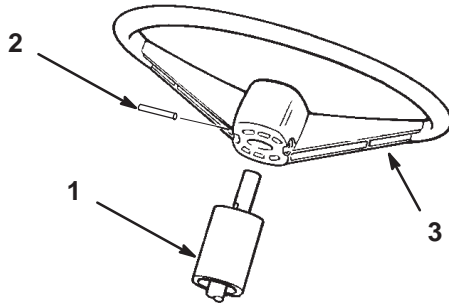

Figure 2
3. Secure the steering wheel to the shaft with a roll pin (Fig. 2).